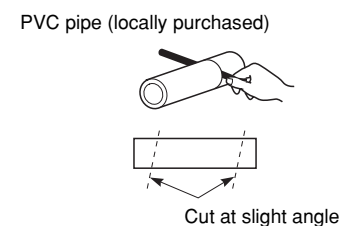

Fig. 3-114
- (5) Measure the thickness of the wall from the inside edge to the outside edge and cut the PVC pipe at a slight angle 15/64" shorter than the thickness of the wall. (Fig. 3-114)